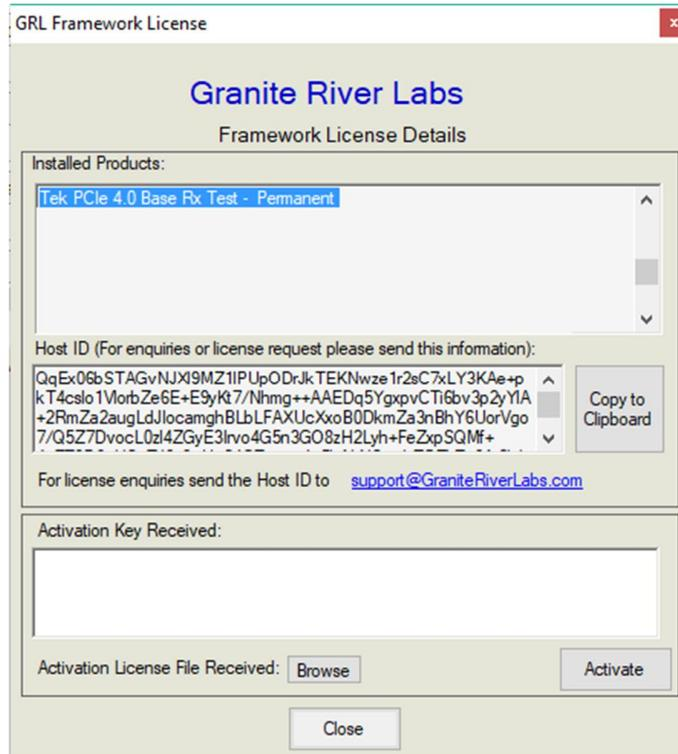

FIGURE 4. LICENSE DETAILS WINDOW
- To enable license, go to License -> License Details. The dialog in Figure 4 will pop up.